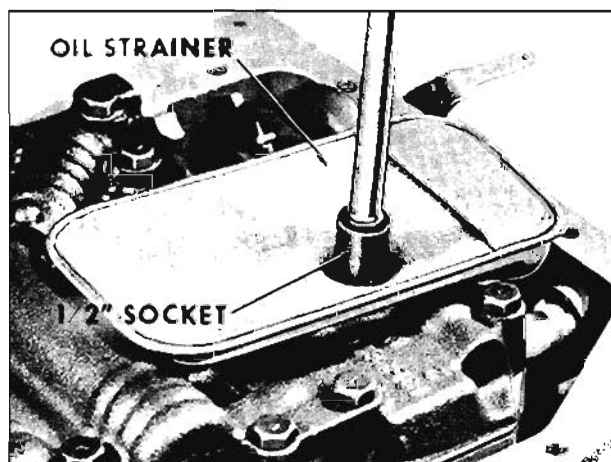

Fig. 6-255 Removing Oil Strainer Attaching Bolt
Refer to Figs. 6-255 through 6-259 and 6-467 through 6-472.
1. Remove bolt retaining oil strainer to valve body using a 1/2" socket. (Fig. 6-255)